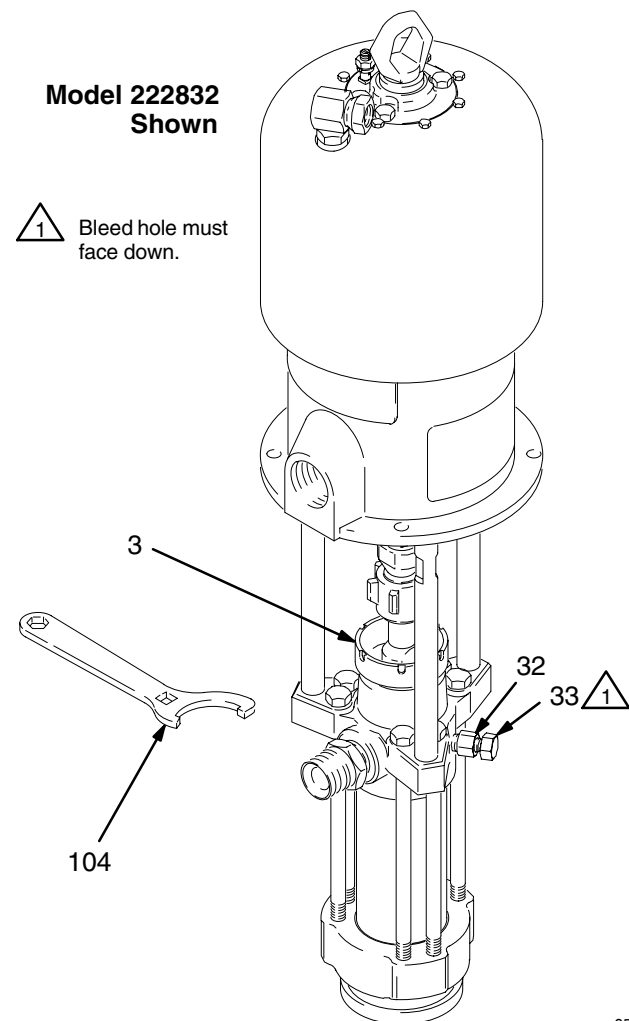

Fig. 5
Fill the packing nut/wet-cup (3) 1/3 full with Graco Throat Seal Liquid (TSL) or compatible solvent. See Fig. 5. Using the supplied wrench (104), adjust the packing nut weekly so it is just snug; do not overtighten. Follow the **Pressure Relief Procedure Warning** above before adjusting the packing nut.
4. If the pump fails to prime properly, open the bleeder valve plug (33) slightly. Use the bleed hole on the underside of the valve body (32) as a priming valve until the fluid appears at the hole. See Fig. 5. Close the plug (33).
**NOTE:** When changing fluid containers with the hose and gun already primed, open the bleeder valve plug (33), to assist in priming the pump and venting air before it enters the hose. Close the bleeder valve when all air has been eliminated.
8. If the pump fails to prime properly, open the bleeder valve plug (33) slightly. Use the bleed hole, on the underside of the body (32), as a priming valve until the fluid appears at the hole. See Fig. 5. Close the plug (33).
10. Use the fluid pressure gauge (F) and flow control valve (G) to control the pump speed and the fluid outlet pressure. Always use the lowest hydraulic flow and pressure necessary to get the desired results. Higher pressures cause premature tip/nozzle and pump wear.